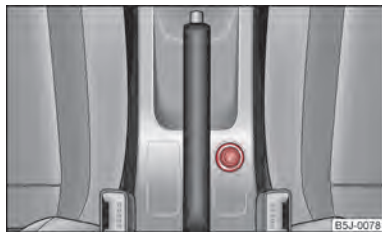

Fig. 65 Centre console: Cigarette lighter
- Press in the button of the cigarette lighter ⇒ fig. 65.